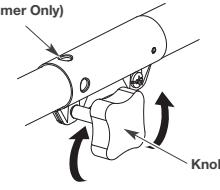
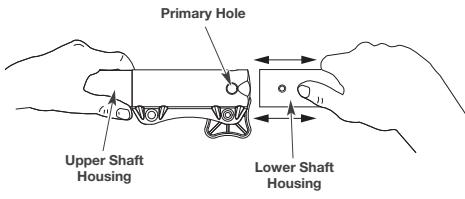

Fig. 3
Fig. 5
- Turn the knob counterclockwise to loosen (Fig. 3).
- While firmly holding the attachment, push it straight into the coupler until the release button snaps firmly into the primary hole (Fig. 5).
- NOTE: Aligning the release button with the guide recess will help installation (Fig. 5).
- Turn the knob clockwise to tighten (Fig. 3).
**CAUTION:** Before operating the unit, make sure the release button is fully snapped into the primary hole (Fig. 5) and the knob (Fig. 3) is securely tightened.
- While firmly holding the upper shaft housing, pull the attachment straight out of the coupler (Fig. 5).